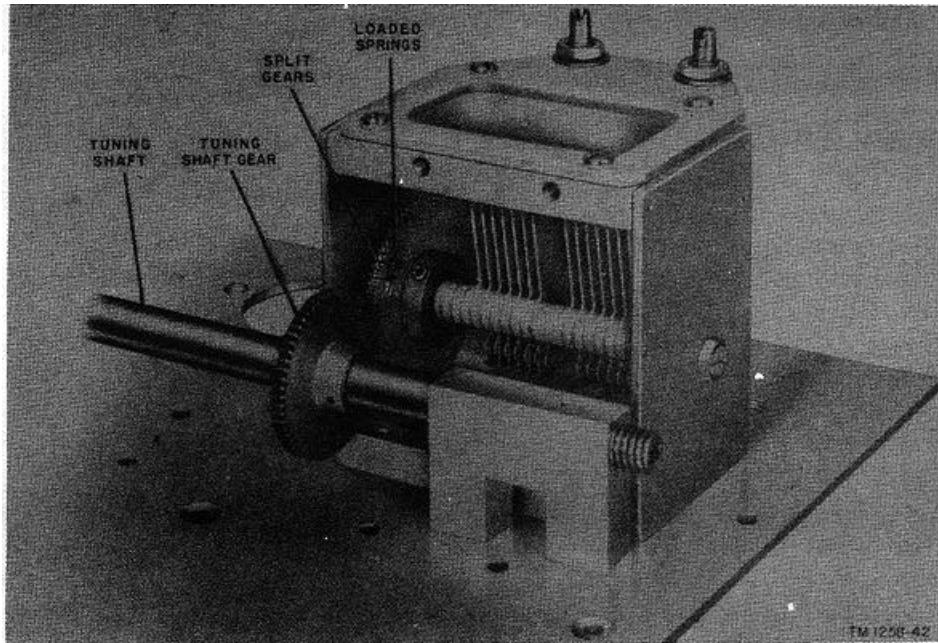
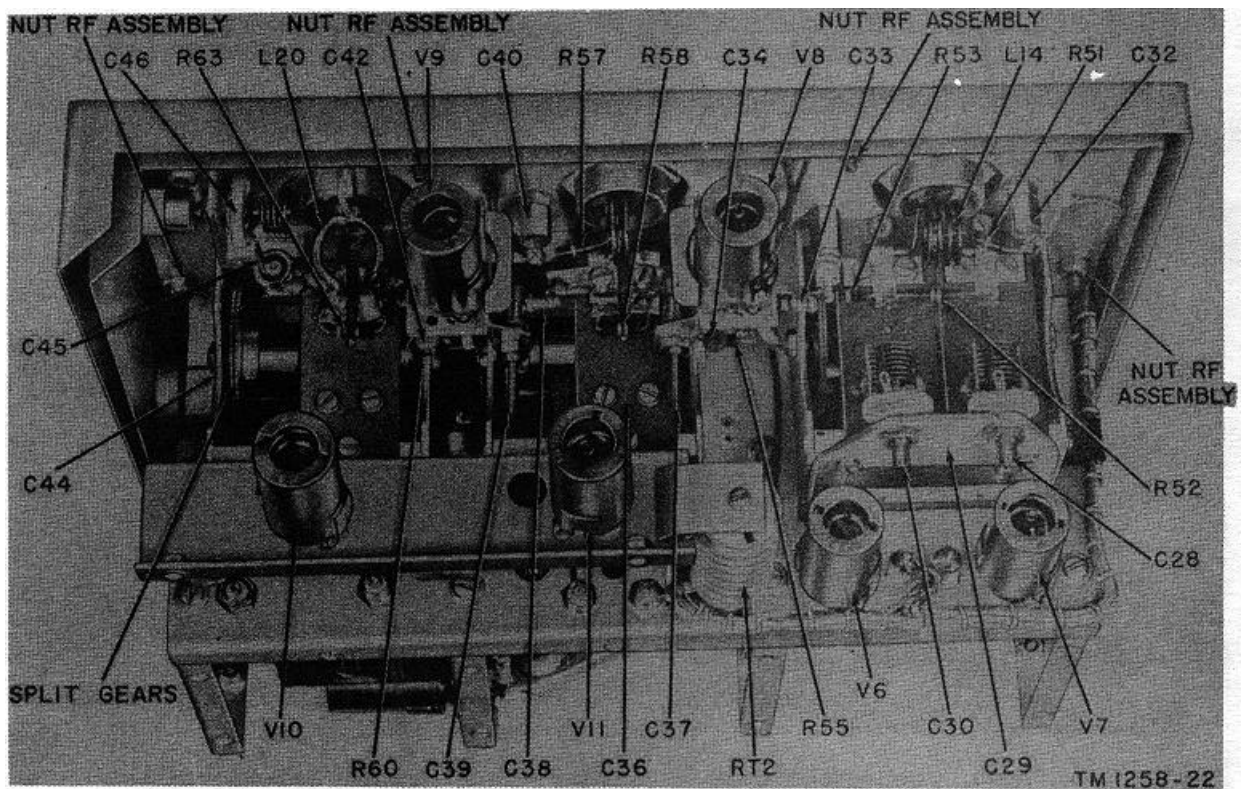

Figure 24. Typical tuning capacitor.
Figure 25. Rf assembly, bottom view.
- (3) Unsolder the three leads to C45, C46 (fig. 25), and C41.
a. To remove tuning capacitor assembly C44 (fig. 25), remove the rf assembly, and proceed as follows:
- (2) Free the modulator chassis (V10 and V11 are mounted on this chassis; see fig. 25) by removing the six screws (fig. 21) which secure it to the rf assembly.
**The split gears, L20 and R68, are components of tuning capacitor assembly C44 (fig. 25).**
- (1) Position and secure the capacitor in place with the seven screws.
- (2) Solder the three leads to C45, C46, and C41.
- (3) Position, then secure the modulator chassis to the rf assembly with six screws.
- (4) Position RT2. Replace the long screw which secures RT2 to the rf assembly. Solder the two leads.
(5) Replace the rf assembly.
**Third doubler V9 is not affected by the removal or replacement of C44 (fig. 25).**
- (2) Unsolder the leads to R53 and stator lead to C29 (fig. 25).
- (1) Position and secure C29 to the rf assembly with the eight screws.
- (2) Solder the stator lead and leads to R53.
- (3) Replace C24 as outlined in paragraph 63b.
a. To remove timing capacitor C36 (fig. 25) from the rf assembly, proceed as follows:
- (1) Remove tuning capacitor C16 as directed in paragraph 62.
- (2) Remove RT2 and free the modulator chassis as directed in paragraph 64a(1) and (2).
- (3) Unsolder the leads to C37, C38, and R57.
**Tube V8 (fig. 25) is not affected in the removal or replacement of C36.**
- (1) Position and secure the capacitor with seven screws.
- (2) Solder leads to C37, C38, and R57.
- (3) Position and replace RT2 and the modulator chassis as outlined in paragraph 64b(3) and (4).
- (4) Replace tuning capacitor C16 as outlined in paragraph 62.
**In replacing any tuning capacitor, preload the spring (fig. 24) in the split gears two and one-half teeth before meshing with the main shaft gears. Gears should mesh as closely as possible without binding. Adjust all rotors so that the plates are fully meshed simultaneously.**
within one-eighth inch of coils L14, L17, and L20 (fig. 25).